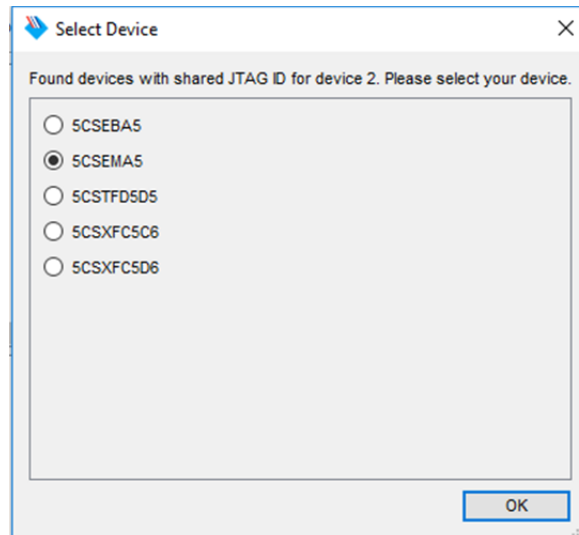

Fig. 102: Selection of the FPGA device.
5. Select the correct device: "5CSEMA5" and then OK (see Fig. 102).